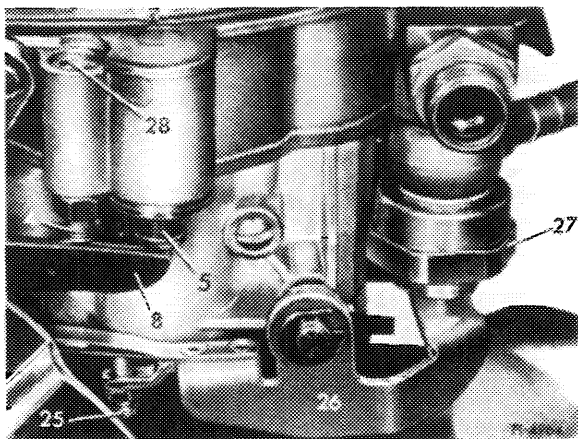

Fig. 07-4/15
1 Connect tachometer and check whether the return valve (27) is completely closed at approx. 2000 rpm. If required, adjust actuating lever (26) correspondingly by means of adjusting screw (25) (Fig. 07-4/15).